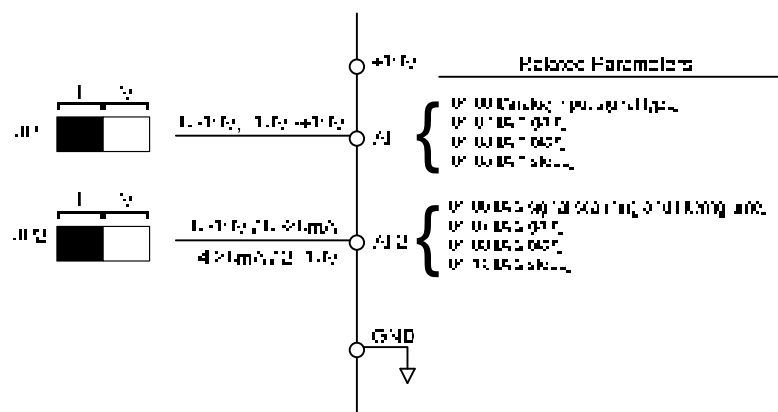

Figure 4.3.35 Analog inputs and related parameters
(1) Analog input level adjustment AI1/AI2(04-02, 04-03,04-07, 04-08)
- Analog input signal AI1 can be adjusted with parameter 04-02 and 04-03. Analog input signal AI2 can be adjusted with parameter 04-07 and 04-08. Refer the figure 4.3.35 °